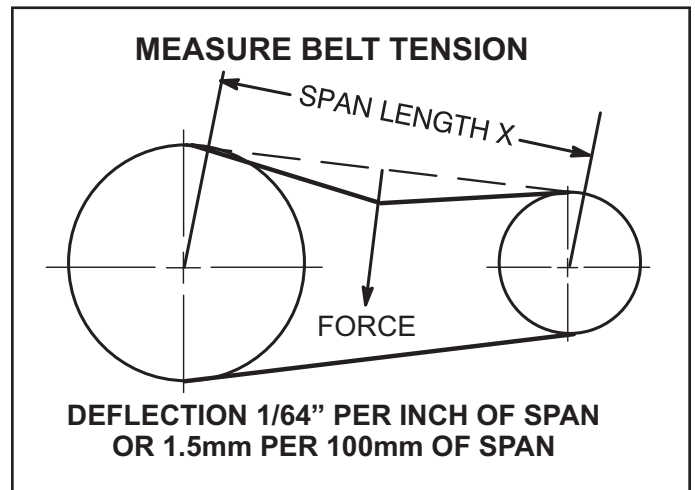

FIGURE 16
- 1 - Measure span length X. See FIGURE 16.
- 2 - Apply perpendicular force to center of span (X) with enough pressure to deflect belt  $1/64$ " for every inch of span length or 1.5mm per 100mm of span length.